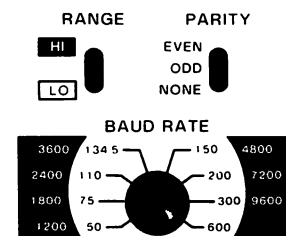

Figure 5-13. Block Keyboard Data Communication Switches
**KEYBOARD DATA COMM SWITCHES.** The keyboard data comm switches are shown in figure 5-13.